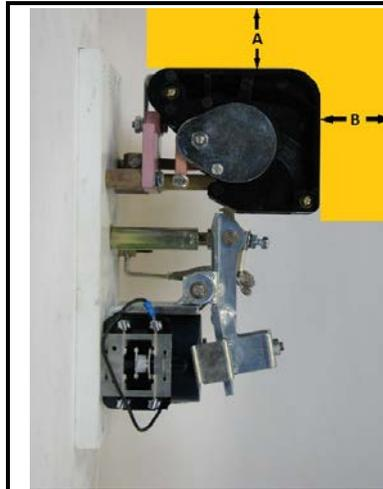

Fig. 1
Mount the contactor vertically on a rigid support. Refer to Figure 1 for proper clearances above the top of the contactor, dimension A, and in front of the Arc Shield, dimension B, for arcing clearance, and Arc Shield removal. Check nameplate data for correct equipment. Check that the contactor operating coil (48) is the correct voltage. With all power removed, pivot the Arc Shield (12) upwards and operate the contactor by hand. The contact tips (15) should meet SQUARELY. If they do not, align them by the procedure in the Contact Tip Adjustment. Pivot the Arc Shield back to its proper position.